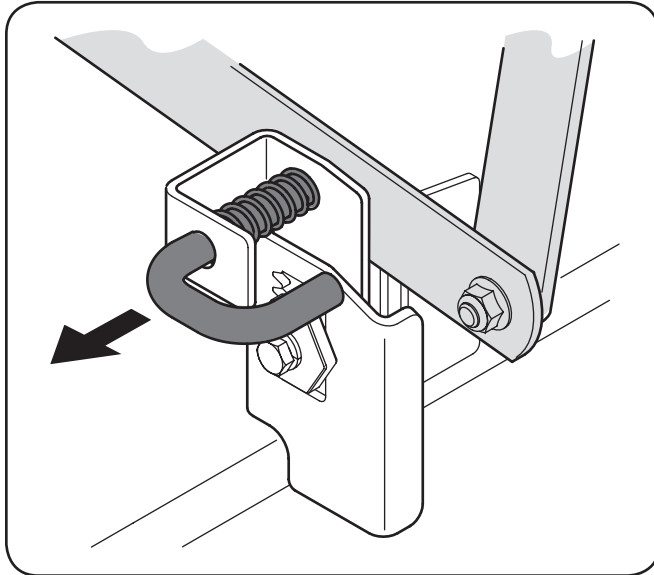

Figure 7-5
8. Pull the deck support pin outward to release the deck from the deck lift arm. See Figure 7-5.